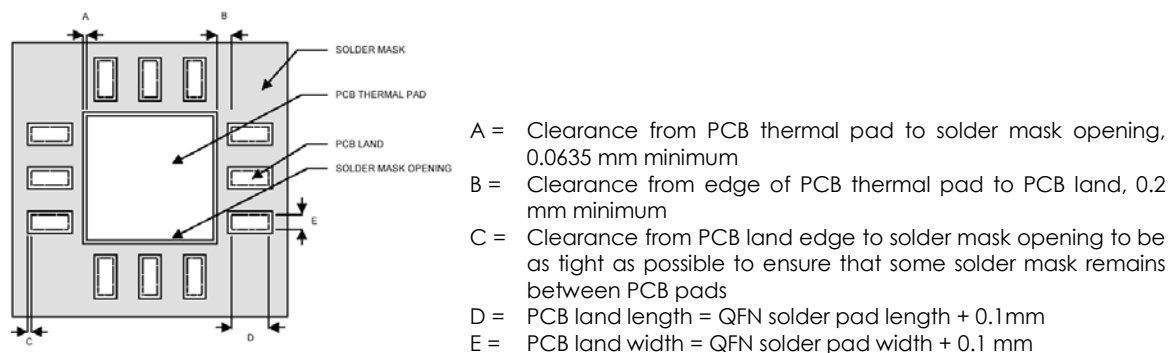

Figure 21: PCB land and solder mask recommendations
1. PCB land and solder masking recommendations are shown in Figure 21.